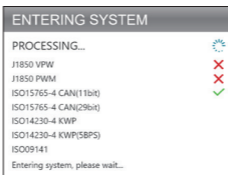

Figure 3.2.1
1. Once you've entered the OBD-II function, the scan tool automatically communicates with the on-board computer to determine the communication protocol. After it's confirmed, the link is established. (See Figure 3.2.1)